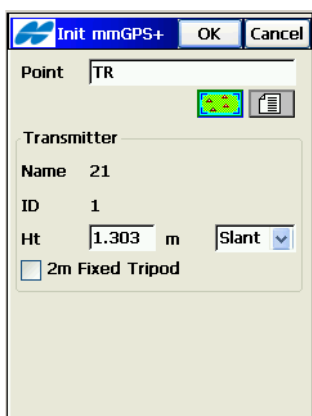

Figure 8-16. Enter Transmitter's Position
7. On the **Init mmGPS+** screen, enter the following information and tap **OK** (Figure 8-16 on page 8-16):